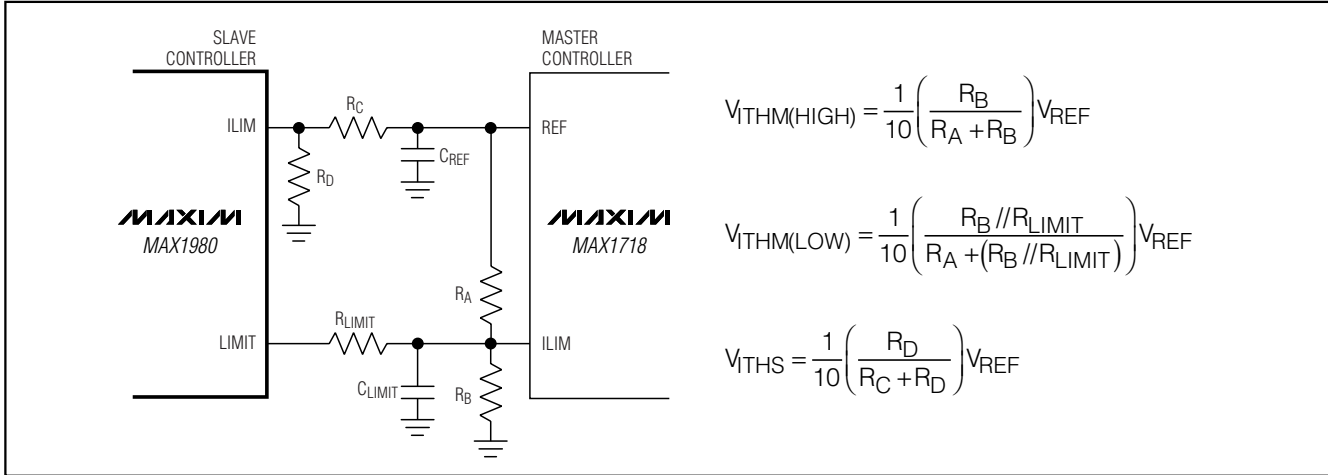

Figure 5. Setting the Adjustable Current Limits
where V_{ITHM} , the master's current-limit threshold, is typically 1/10th the voltage seen at the master's ILIM input ($V_{ITHM} = 0.1 \times V_{LIM(MASTER)}$, see the master controller's data sheet). Connect a resistive voltage-divider from the master controller's internal reference to GND, with the master's ILIM input connected to the center tap (Figure 5). Use 1% tolerance resistors in the divider with 10µA to 20µA DC bias current to prevent significant errors due to the ILIM pin's input current:
where V_{ITHS} , the slave's current-limit threshold, is precisely one-tenth the voltage seen at the slave's ILIM input ($V_{ITHS} = 0.1 \times V_{LIM(SLAVE)}$). Connect a second resistive voltage-divider from the master controller's internal reference to GND, with the slave's ILIM input connected to the center tap (Figure 5). The external adjustment range of 400mV to 1.5V corresponds to a current-limit threshold of 40mV to 150mV. Use 1% tolerance resistors in the divider with 10µA to 20µA DC bias current to prevent significant errors due to the ILIM pin's input current. Reducing the current-limit threshold
Now select the resistive-divider values (R_A and R_B in Figure 5) to set the appropriate voltage at the master's ILIM input:
Select the resistive-divider values (R_C and R_D in Figure 5) to set the appropriate voltage at the slave's ILIM input:
- 4) Determine R_{LIMIT} (Figure 5) from the above equation: